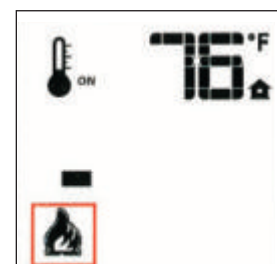

Figure 7.7. Flame Level 1.
- The Up Arrow Key will increase the flame height each time it is pressed. If the U Arrow Key is pressed while the system is on but the flame is off, the flame will come on in the High position. Figs. 7.7- 7.9. A single "beep" will confirm reception of the command.